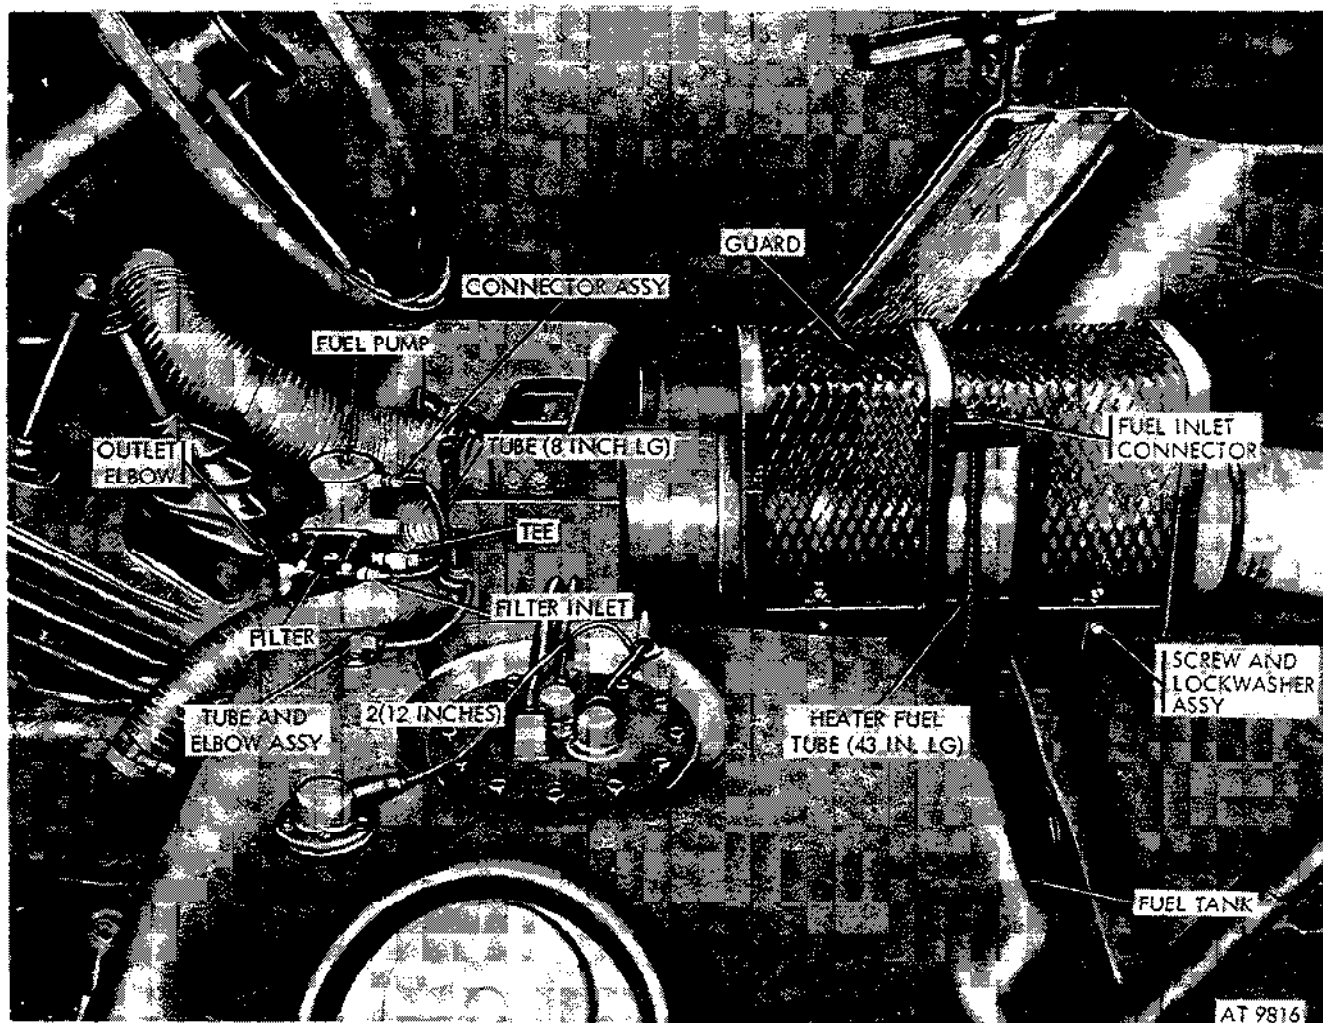
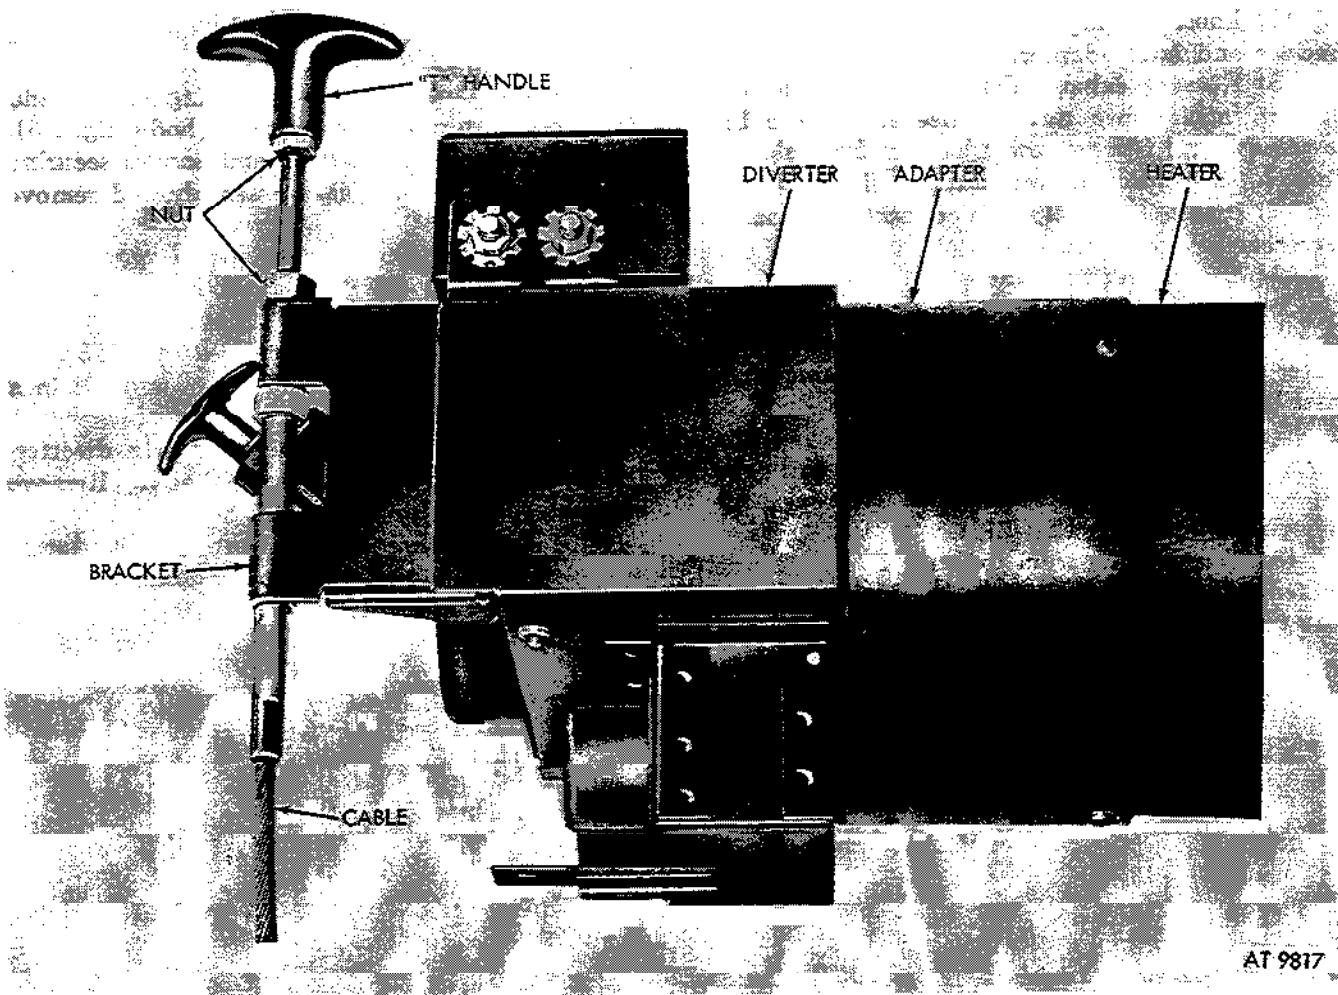
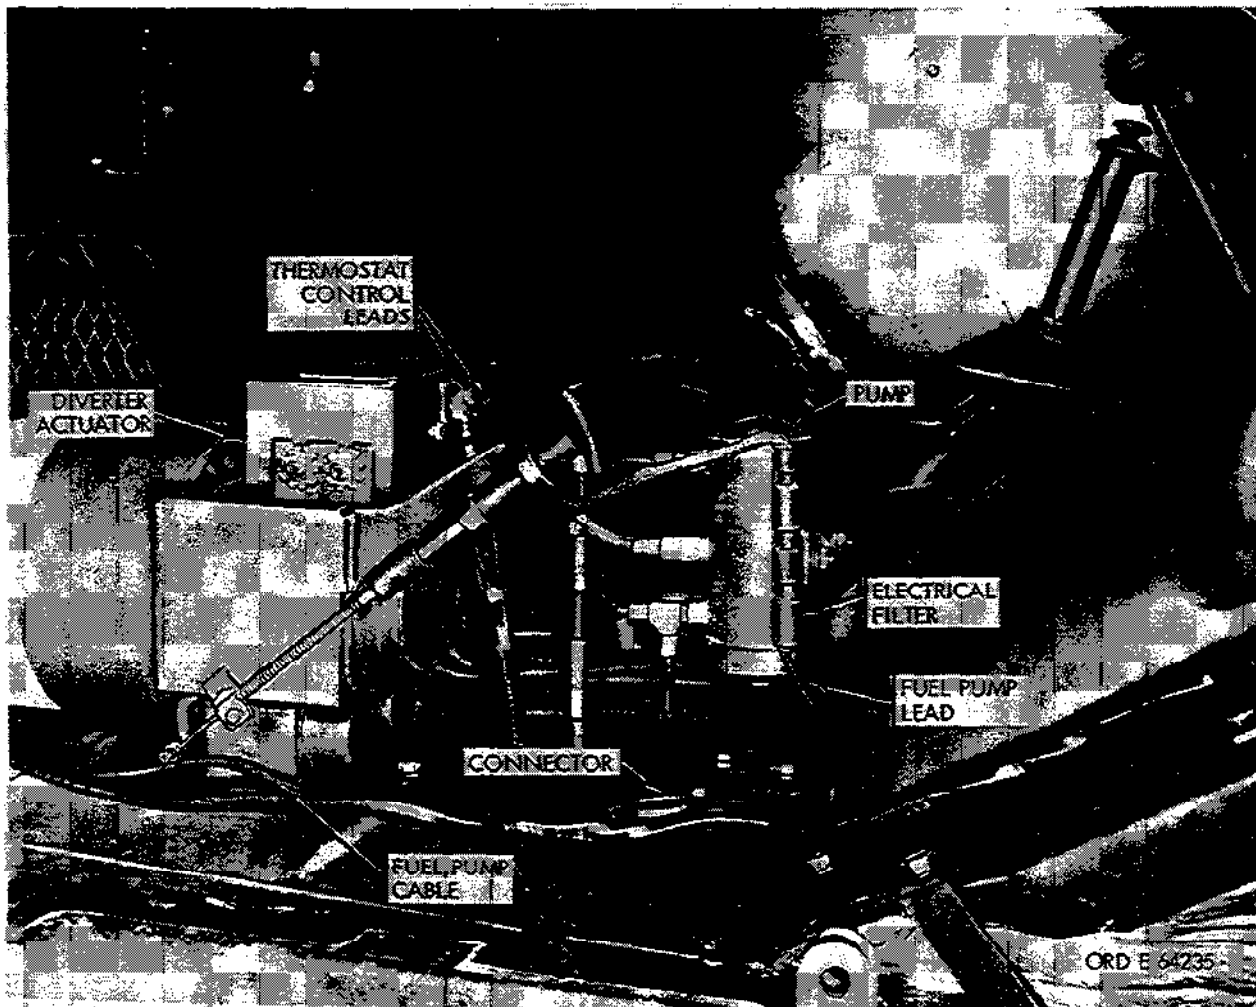

Figure 3-5. Fuel pump filter & fuel lines installation.
Figure 3-6. Exhaust diverter control handle removal.
Figure 3-9. Fuel pump cable and connector.
damper permitting heated air to again flow to the batteries. Perform test by removing battery compartment and battery box covers after the damper door has closed. This will allow the thermostat to cool more rapidly causing the actuator to open the damper. If the damper opens when it should close, reverse the thermostat lead wire connections at the terminal strip of the actuator (fig. 3-9). Repeat test.
(1) Remove four heater guard retaining screws. Remove guard (fig. 3-5).
(2) Loosen clamps retaining hoses to heater diverter and inlet adapter.
(3) Remove exhaust diverter control handle, locknut, and upper nut on sleeve. Slide cable downward and remove lower locknut from sleeve. Remove sleeve from lower bracket (fig. 3-6).
(7) At terminal board, mark one of the thermostat control leads (fig. 3-9), and the respective terminal for identification. Remove both leads from terminals (fig. 3-9).
(8) Loosen nuts from exhaust diverter studs located under heater to relieve gasket pressure on heater exhaust pipe.
(9) Lift heater from mounting pads.
(10) Place chalk mark on heater body, adapter and diverter-actuator to coordinate position of each at assembly (fig. 3-6).
(11) Remove four screws securing adapter and diverter-actuator assembly to heater body (fig. 3-6).
(12) Remove three nuts and screws securing adapter to diverter-actuator assembly and remove adapter (fig. 3-6).
a. Removal. Refer to figure 3-5.
- (1) Disconnect upper fuel line from fuel pump.
- (2) Disconnect both fuel lines from tee at bottom of fuel pump.
- (3) Remove tee from fuel pump.
- (4) Disconnect cable connector at fuel pump (fig. 3-9).
- (5) Remove mounting nuts, washers, and screws. Remove pump.
b. Installation. Reverse procedure shown in (5) through (1), *a* above.
(1) Disconnect both fuel lines from fuel filter assembly.
(2) Remove two mounting screws.
(3) Remove elbow from fuel outlet.
b. Installation. Reverse procedure shown in (3) through (1) of *a* above.
a. *Removal (Heater Assembly 870193) (fig. 3-9).*
(1) Loosen both hose clamps and remove defroster hose and battery box hose from diverter assembly.
(2) Remove exhaust diverter control handle (fig. 3-6).
(3) Mark one battery box thermostat lead wire and its respective terminal. Disconnect both lead wires from actuator terminal strip.
(4) Remove four screws securing diverter adapter to heater body. Remove diverter and adapter.
(5) Remove three screws, washers, and nuts securing adapter to diverter.
b. *Removal (Heater Assembly 10920608). Refer to figure 3-9.*
(1) Perform (1) through (3) above.
(2) Remove three diverter to heater body attaching screws. Remove diverter-actuator assembly.